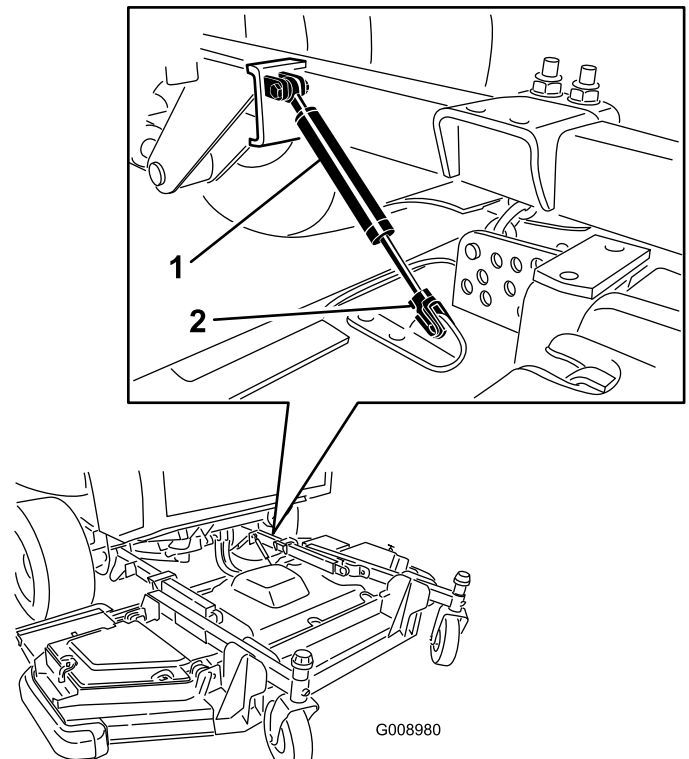

Figure 91
2. Remove the retainer clip and disconnect the damper assembly from the cutting unit (Figure 91).